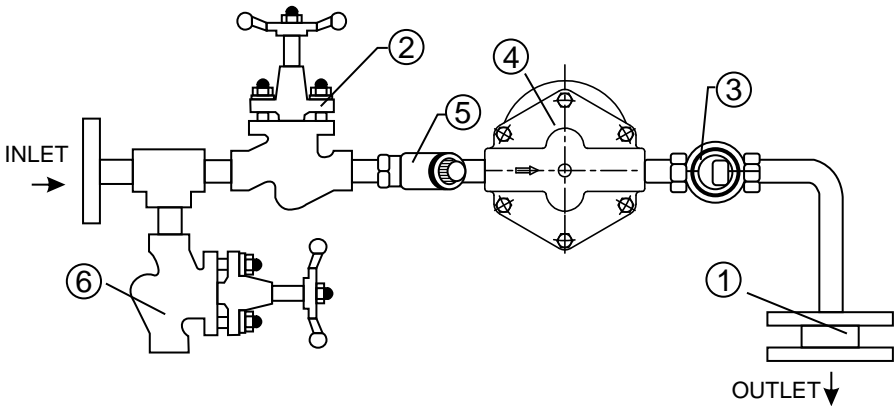

Figure5: Single Orifice Float trap module
5. Installation Guidelines : (Refer to Figure 5, 6, and 7)
3. Ensure the availability of all components as shown in Figure 5, to ensure the operation of the trap.
6.1 Flushing of Lines : (Refer to Figure 5)
1. Close the stop valve (2) and open the bypass stop valve (6).
3. Now slowly close the bypass stop valve (6) and open the stop valve (2).
6.2 Commissioning : (Refer to Figure 5)